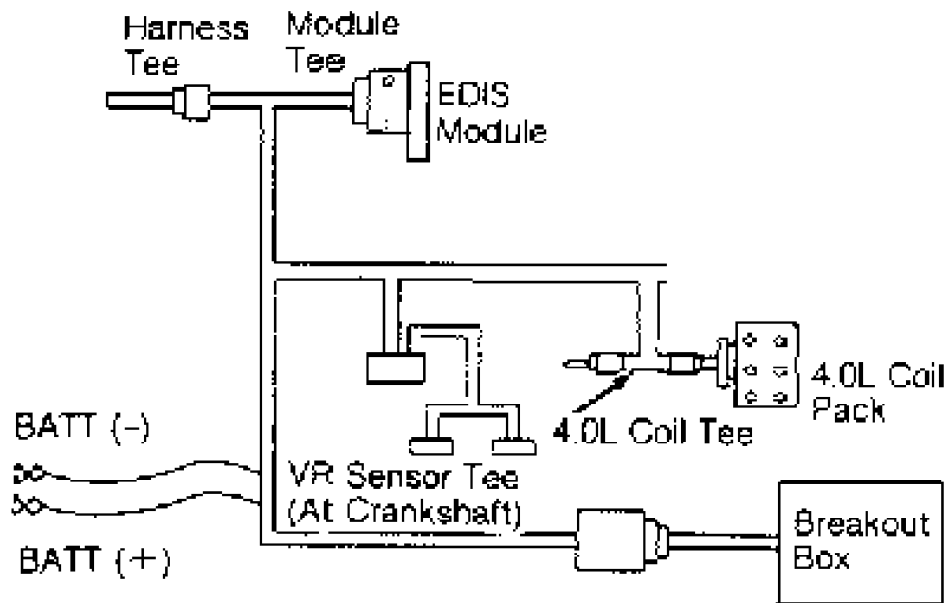

Fig. 8: Installing EDIS Diagnostic Cable
1) Turn key off. Connect EDIS Diagnostic Cable (007-00059) to breakout box (T83L-50-EEC-IV), EDIS module and coil pack. DO NOT connect Crankshaft (VRS) sensor tee. See Fig. 8. Use EDIS No. 6 overlay.